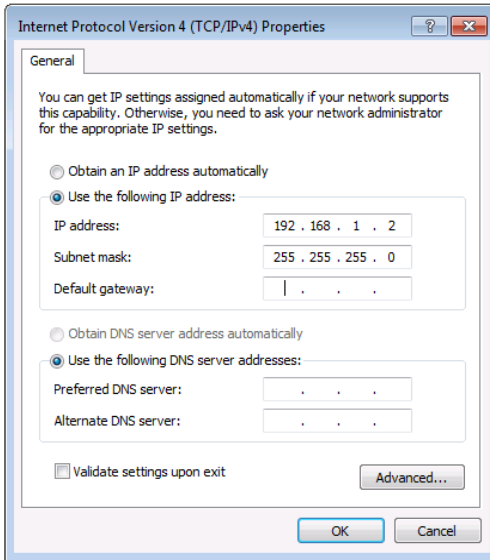

Figure 12: Internet Protocol Properties Window
6. Select **Use the following IP Address** for static IP addressing and fill in the details as shown in Figure 12.